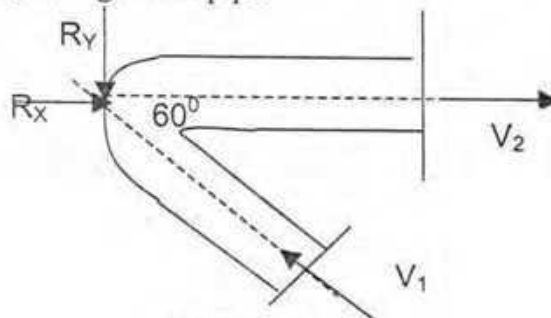

Figure 4
- c. Water enters in a 120° horizontal reducing pipe with a velocity of 5 m/sec and a pressure of 78.480 kN/m^2 as shown in Figure 4. If the diameters at the entrance and exit sections are 30 cm and 20 cm respectively, calculate the components of the reaction e.g. R_x and R_y acting on the pipe. 12